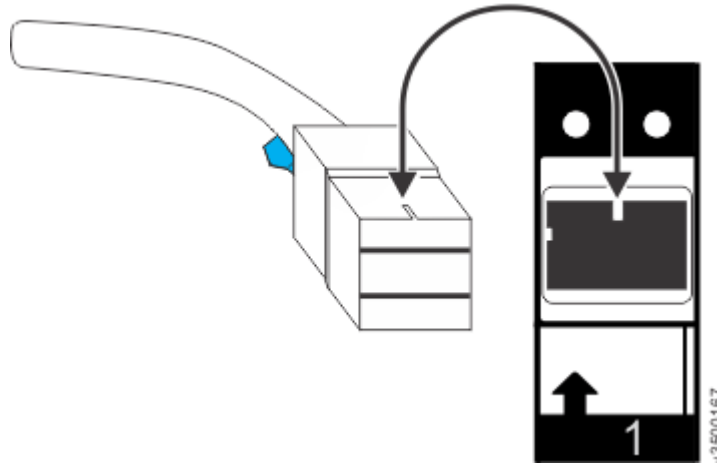

Figure 97. Proper orientation for SAS cable connector
- Figure 97 on page 159 shows the correct orientation. The blue tab is always below the port for expansion enclosure attachment SAS cables.